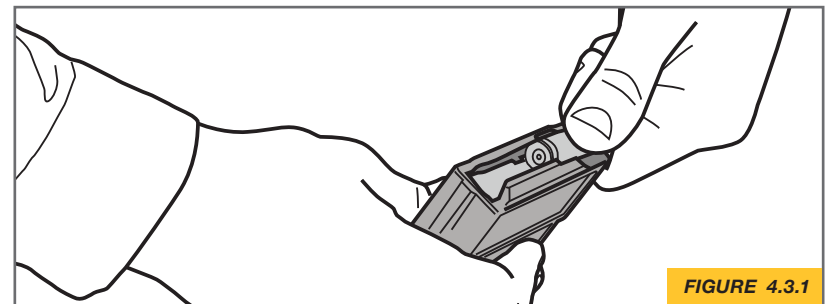

FIGURE 4.3.1
3. With front of the magazine facing forward, place a round between and in front the feed lips of the magazine with the bullet forward. Press the round down and slide it backwards until it is held by the magazine lips (**FIGURE 4.3.1**). Place next round on top of previous round and repeat until desired number is loaded.